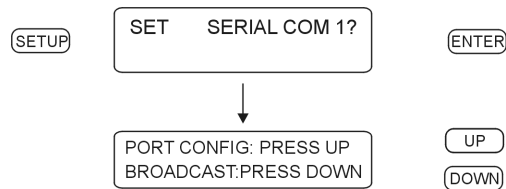
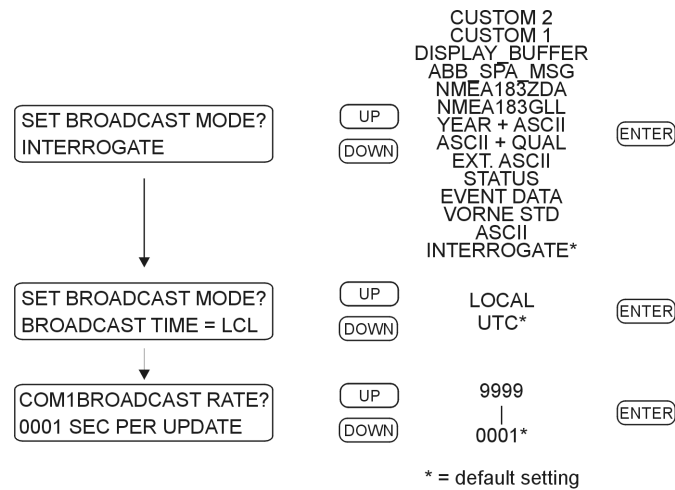
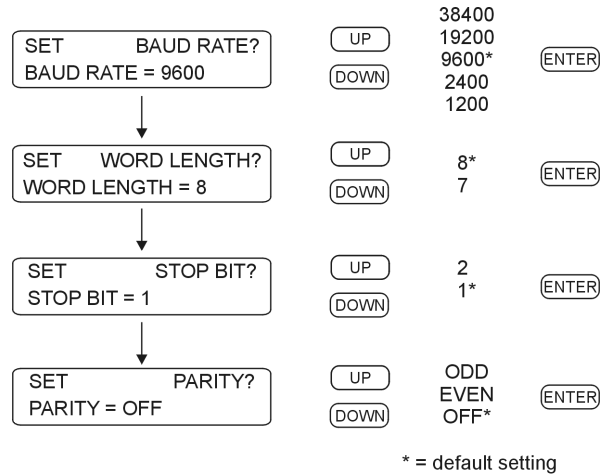

Figure 6.1: COM 1 Setup
Figure 6.2: Broadcast Mode Setup
Figure 6.3: COM 1 and COM 2 Parameter Setup
Press **SETUP** key to configure Serial COM 1. To enter the Set Serial COM 1 menu, press the **SETUP** key and then the **ENTER** key. After this you will be able to choose between configuring the serial port parameters (**PORT CONFIG**) or selecting one of the broadcast options (**BROADCAST**). If you select **BROADCAST**, by pressing the **DOWN** key, you will also be able to select the preferred time zone in the broadcasted string (either **UTC** or **LOCAL**). See Figure 6.1.
From the menu shown in Figure 6.1, press the DOWN key to select the Broadcast option and set up the 1094B to broadcast one of the available strings. Press the UP or DOWN keys to navigate through the fourteen choices for the broadcast strings, starting with INTERROGATE MODE (as seen in Figure 6.2). Interrogate Mode means that the 1094B is not broadcasting, but waiting for a command. When you have selected the desired broadcast string, press ENTER to apply the broadcast. For broadcast strings other than INTERROGATE MODE, two menus should follow: (1) select the time zone (UTC or Local), and (2) select the broadcast rate (1 to 9999 seconds between successive broadcasts, depending on type of broadcast).
To set COM parameters, press the UP key as shown in Figure 6.1. Work through each menu to select your desired settings. See Figure 6.3.
Configure COM 1 and COM 2 in the same manner as shown in Figure 6.3. The “SET SERIAL COM 2?” menu immediately follows the “SET SERIAL COM 1?” menu. Another method of directly entering the SET SERIAL COM 2? menu is to press the SETUP key twice.